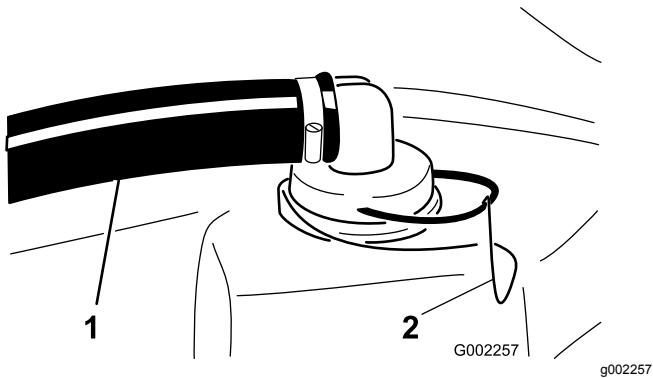

Figure 66
2. At the top of the sprayer tank, remove the retainer that secures the hose fitting attached to the large hose from the strainer housing (Figure 66).
3. Remove the hose and hose fitting from the strainer housing (Figure 66).